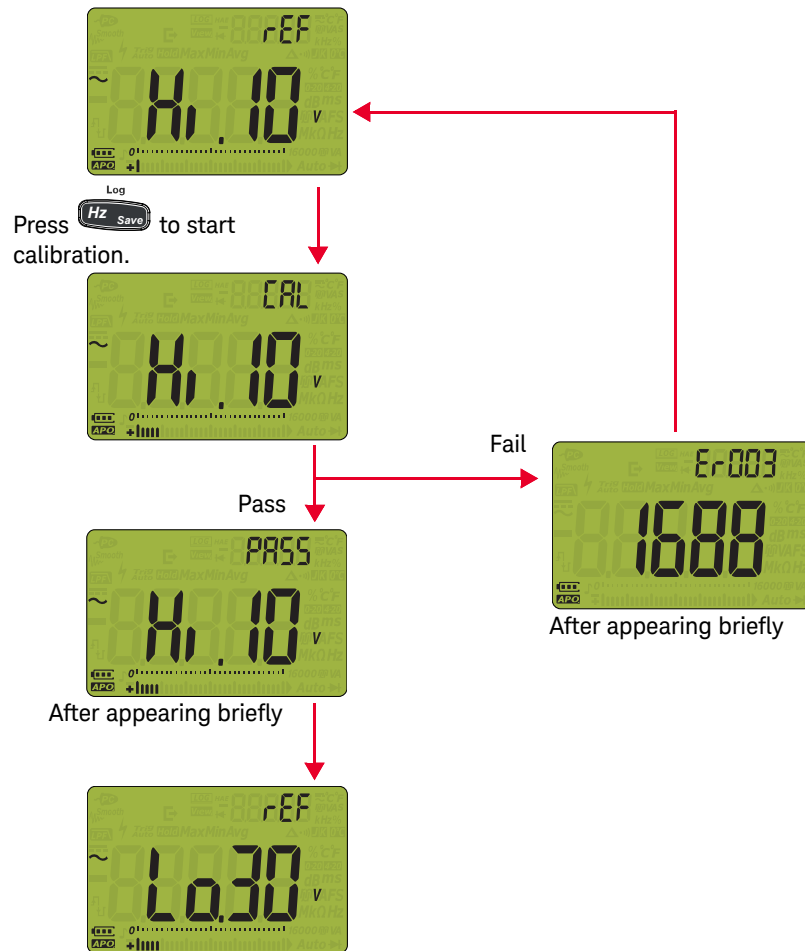

Figure 1-8
- See **Figure 1-8** for the multimeter display.